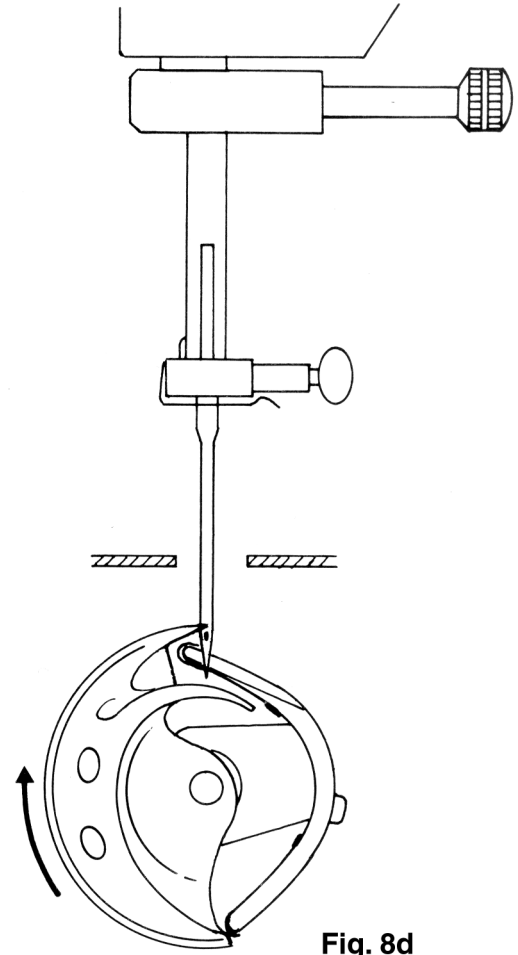

Fig. 8d
At the settings for straight stitch and "middle" needle position, when the needle bar has moved from its lowest position 2.5 mm upward, the hook point must be positioned exactly on the center line behind the needle (fig. 8d).
- Turn the handwheel in sewing direction until the needle rise clamp is resting on the needle bar frame (fig. 8d).
- Fit the needle rise clamp again and repeat the worksteps until the needle is once again in needle rise position (see "Check" fig. 8d)).
- Turn the long hook shaft 25 so that the hook moves forward and the hook point is on the center line behind the needle (fig. 8d).